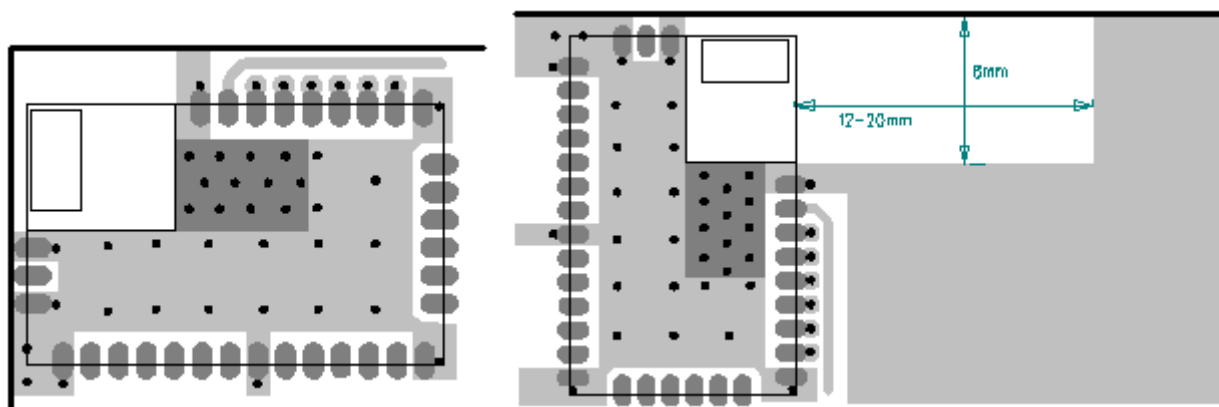

Figure 10.1. Recommended Layouts, On-Board Corner and On-Board Edge
- Do not place a ground plane underneath the antenna. The grounding areas under the module should be designed as shown in Figure 10.1 Recommended Layouts, On-Board Corner and On-Board Edge on page 22.